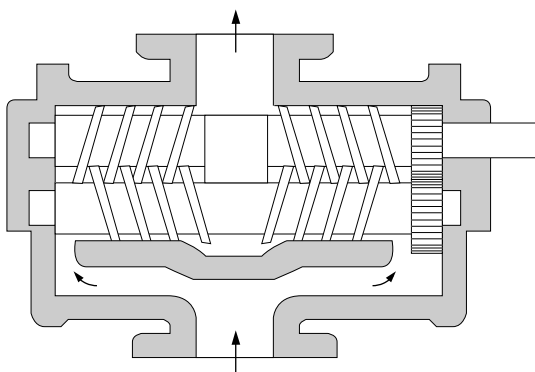

FIGURE 20. Two-Screw Pump
- Multiple screw pumps have multiple external screw threads. Such pumps may be timed or untimed. Figure 20 illustrates a timed screw pump.